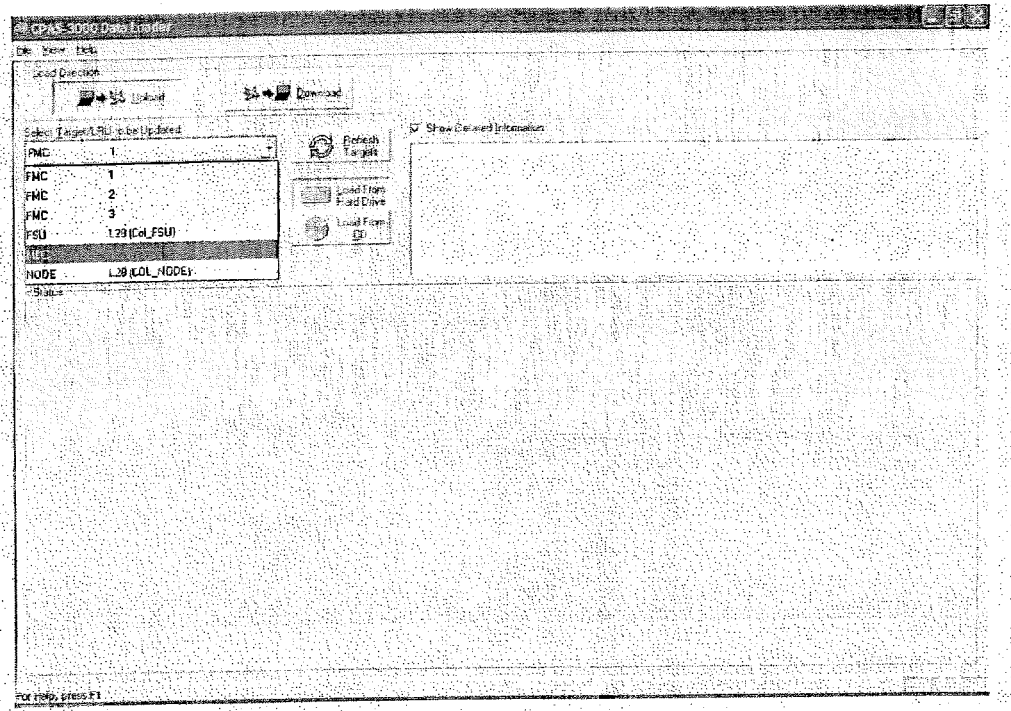

Fig. 205 - Target / LRU to be Updated Window
- (1) Ensure the MDC and the FSU are operating and the PC is properly connected to the FSU with the appropriate Ethernet cable.
- (2) On the PC, double click on the Launch Pad icon and then click on the Data Load button to launch the application.
- (3) Select the load direction by clicking on the Upload button.
- (4) Refer to Figure 205. Select the desired MDC target from the Select Target/LRU to be Updated drop-down box. If there are no targets in the list, click on the Refresh Targets button. If there are still no targets in the list, verify the data load targets/line replaceable units are properly connected to the network and repeat this step.
- (5) To upload software from the PC's hard drive, select the desired Diagnostic Tables software item from the Select Data/Software to be Updated drop-down box and proceed to the next step. To upload software from a compact disc (CD), click on the Load From CD button. If the PC contains more than one CD-ROM drive, the Select a CD-ROM Drive window will appear, displaying a list of available CD-ROM drives. Select the desired drive and click the OK button. Select the desired software item from the Select Data/Software to be Updated drop-down box.